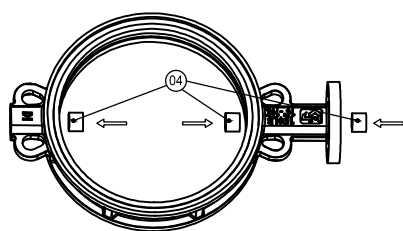
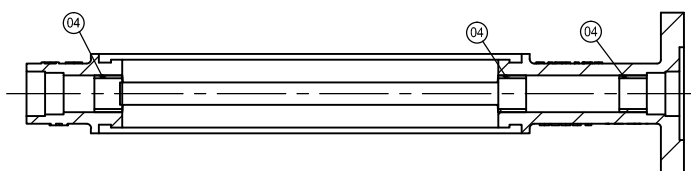

Figure 1
Figure 2
(1) As shown in Figure 1, use a top rod and a hammer to knock the bushing into the shaft hole of the bo so that the bushing is installed to the position shown in Figure 2.